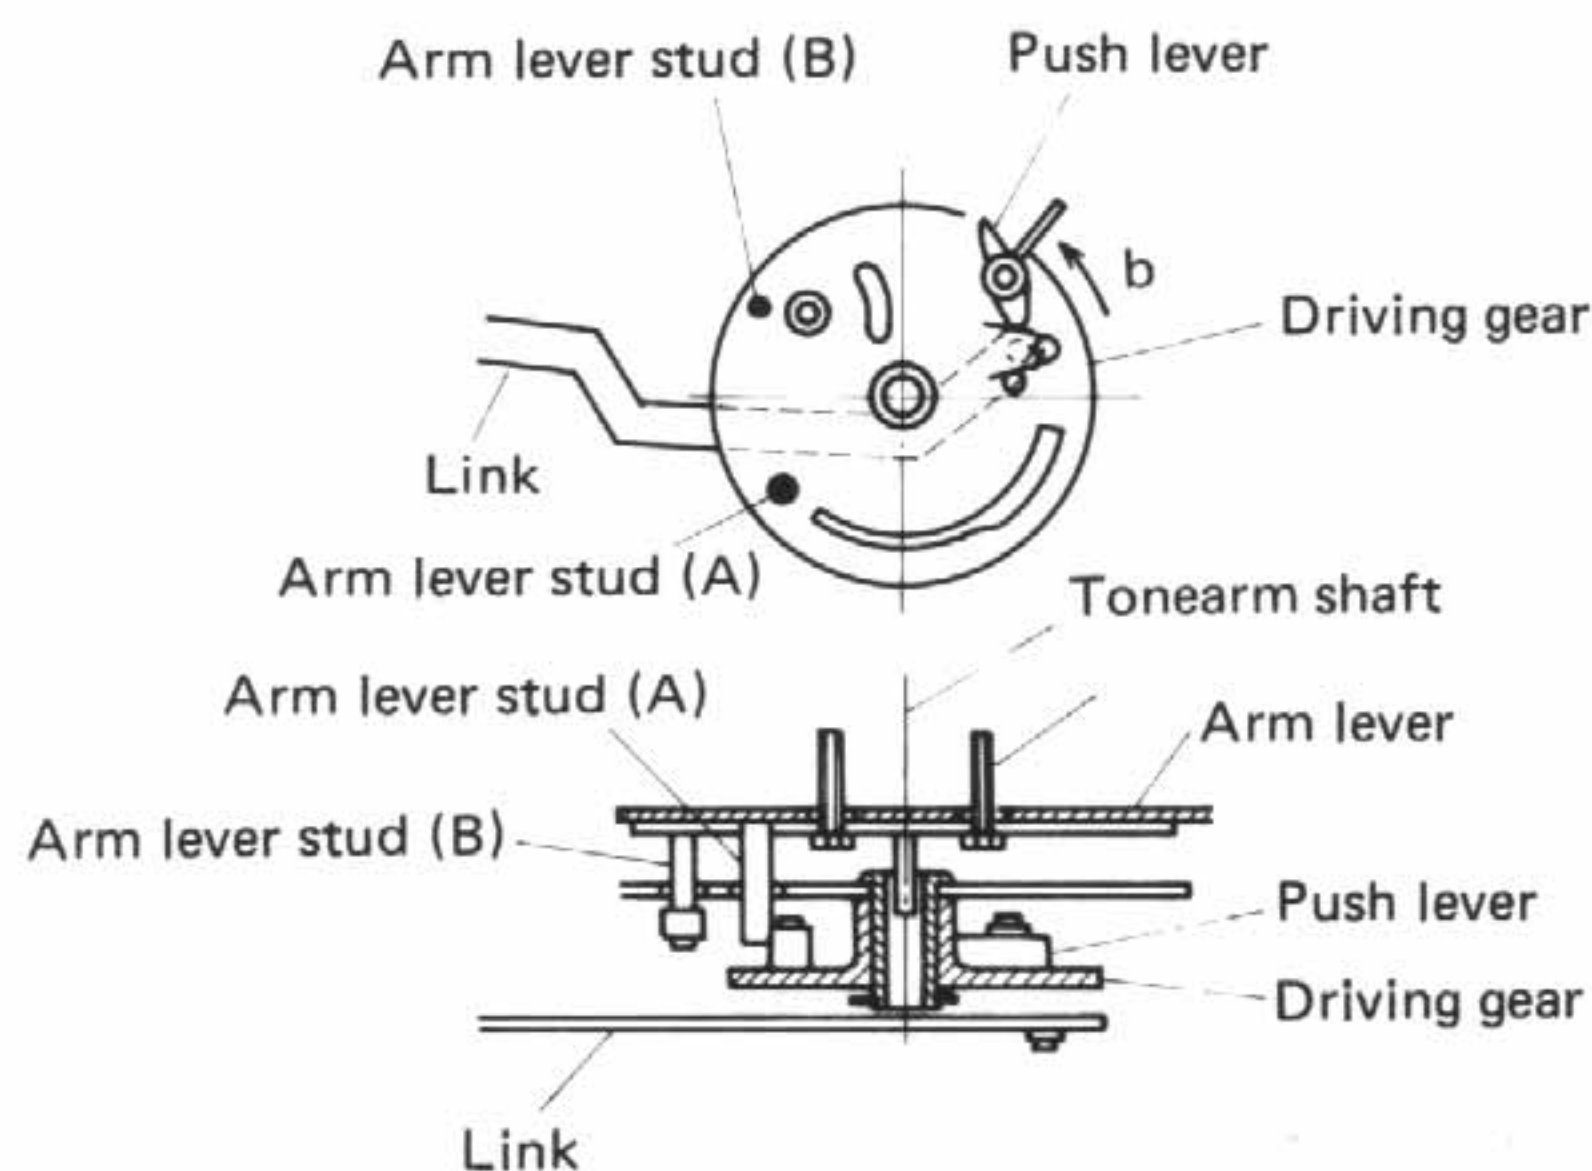

Fig. 9
When the elevator cam functions, the elevator is lifted by the inclined face and the pick-up arm moves upward. As shown in Fig. 9, the reciprocating movement of the driving gear actuates the push lever in the direction of b and moves the arm lever stud (B). The arm lever functions together with the driving gear to return the tonearm to the arm rest, thus completing the lead-out operation. See Fig. 9.